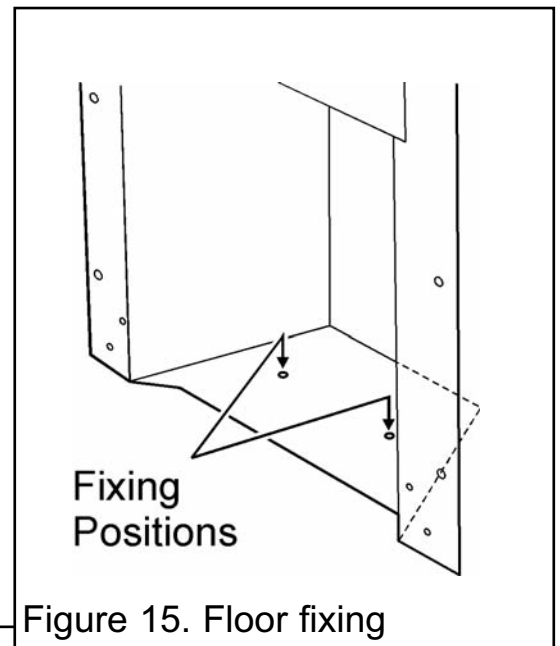

Figure 15. Floor fixing
3. Drill two suitably sized holes for the wood screws supplied in the base of the hotbox (See figure 15).
9. Drill a hole into the fireplace floor through each of the two holes in the base of the hotbox using a suitably sized masonry drill bit for the fibre / wooden wall plugs supplied (See figure 15).